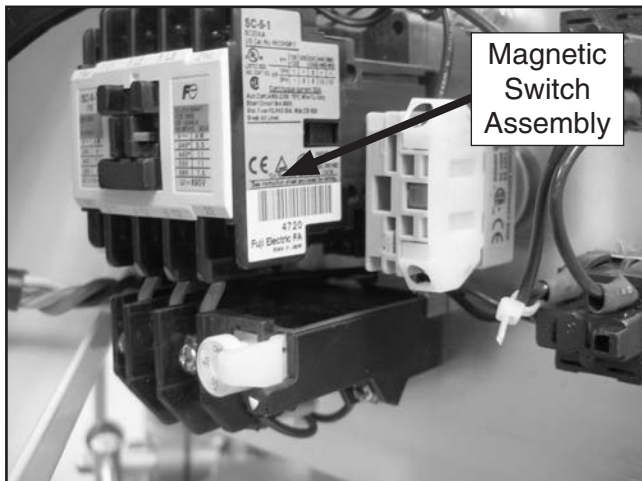

Figure 4. Magnetic switch assembly
3. Replace the existing magnetic switch assembly (see **Figure 4**) with the magnetic switch assembly from the 440V conversion kit.